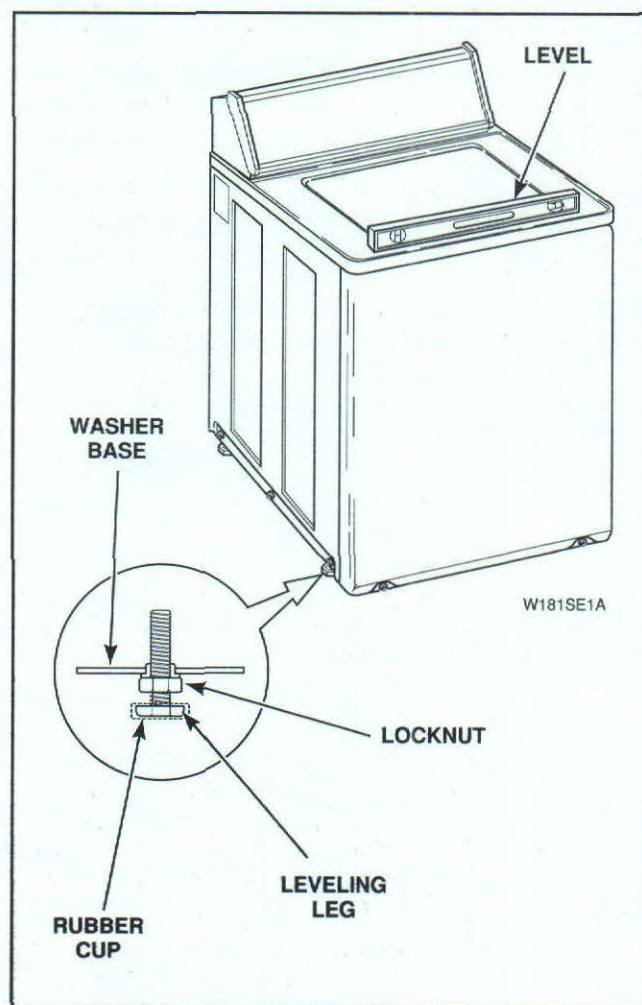

Figure 58
31. LEVELING LEGS (Refer to Figure 58)